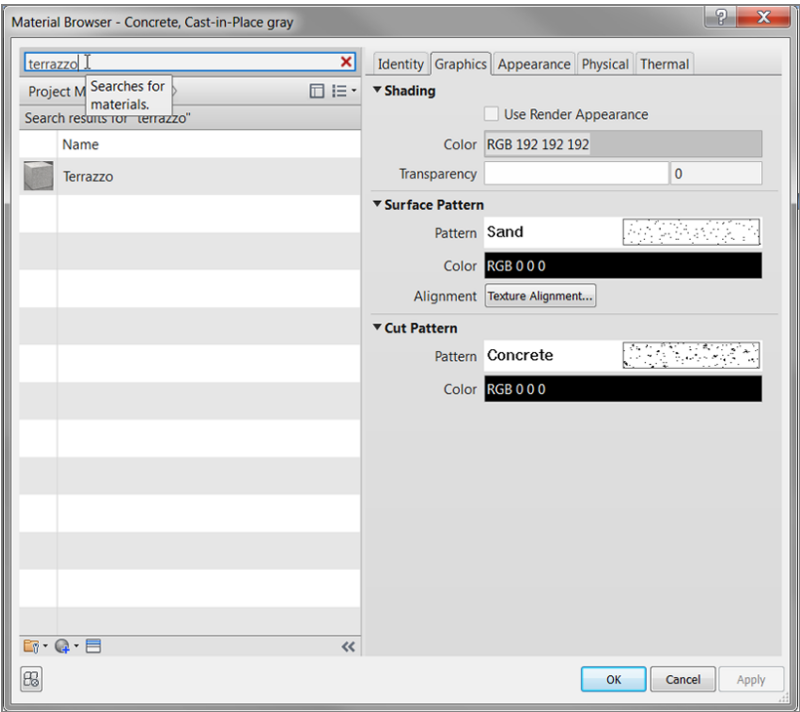

FIGURE 6.23: Selecting a material and adding it to the project
- 6. In the Material Browser, type **terrazzo** as shown in Figure 6.23. Your Terrazzo material appears. When it does, select it, and click OK.
- 7. Scroll down, and double-click Terrazzo (see Figure 6.23).